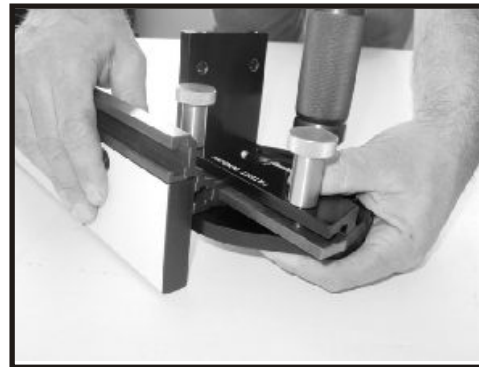

FIG. 5
5. Now attach the fence to the gauge assembly by sliding the fence clamping bar into the matching slot machined into the fence extrusion (Fig. 5). Center the miter gauge assembly to the fence extrusion and lightly tighten the two brass fence adjustment knobs.